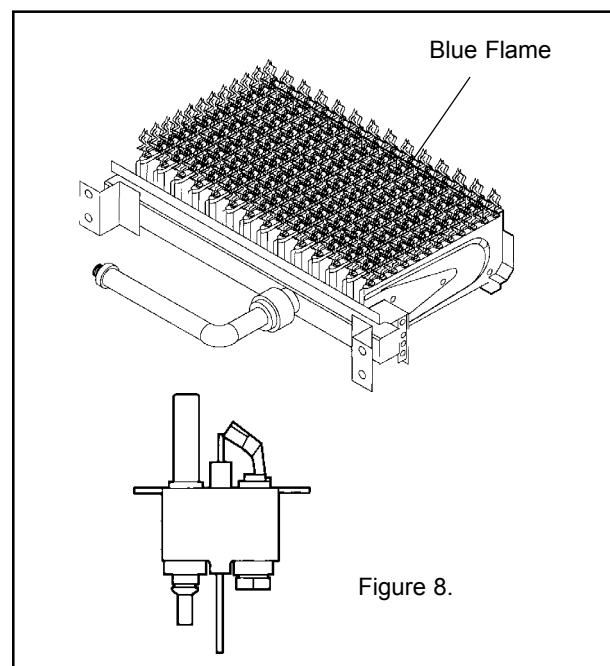

Figure 8.
2. Visually inspect the main burner and the pilot burner flame (on millivolt models). The normal color of the flame is blue. When flame appears yellow, burners should be inspected and cleaned; see Figure 8.